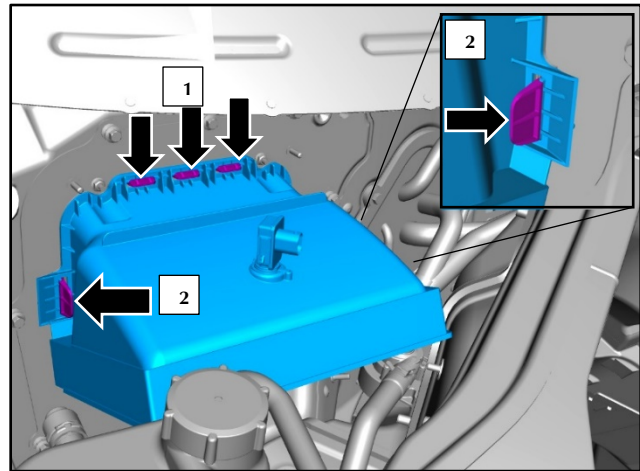

Figure 16
7. Install the heater inlet duct (refer to Figure 16).